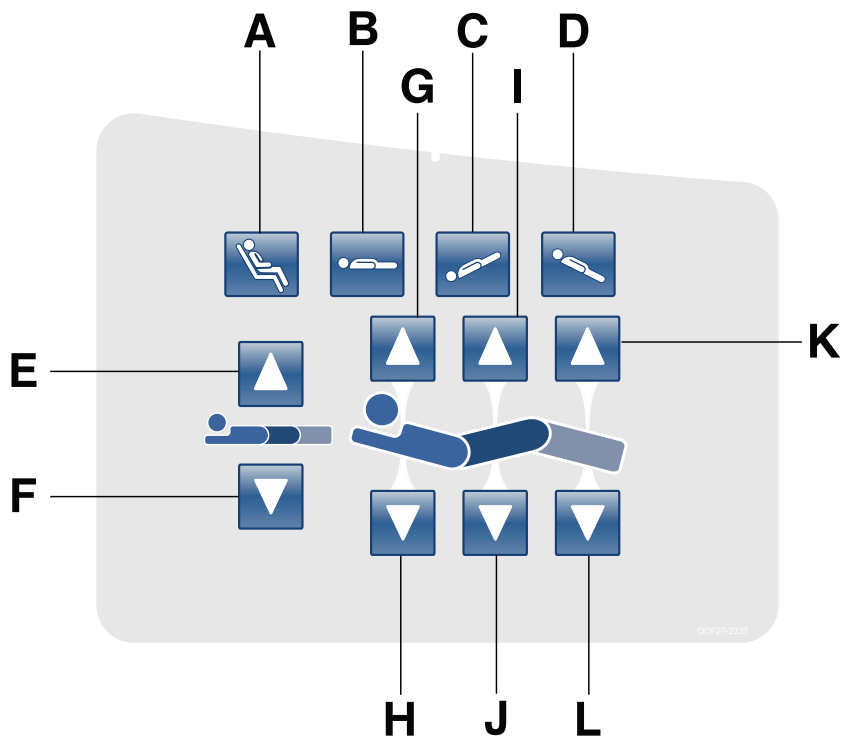

Figure 17: Raising or lowering the siderails
To raise the siderails, grasp the yellow release latch (A) (Figure 17 on page 30) and rotate the siderail backward.
To lower the siderails, grasp the yellow release latch (A) (Figure 17 on page 30) and rotate the siderail forward.